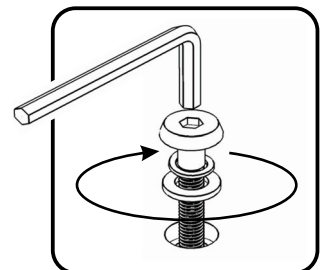

Figure 3
Attach Table Slides (F) to unit with Flat Washers (small), Spring Washers (small), Head Cap Bolts and Wood Screws. (See Figures 3 and 4)